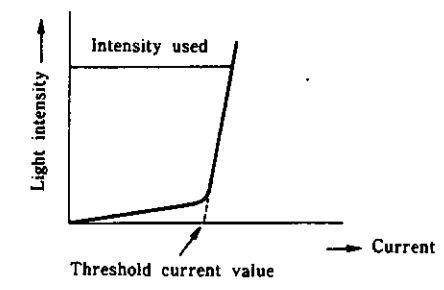

Fig. 12
5. Precautions at time of servicing (Fig. 12)
The semiconductor laser is very susceptible to static electricity destruction and surge currents. Be careful never to touch the terminals of the semiconductor laser and the terminals of the flexible board with your hands or a tool. As illustrated in Fig. 12, the current and light intensity characteristics increase abruptly once the threshold current value is exceeded.